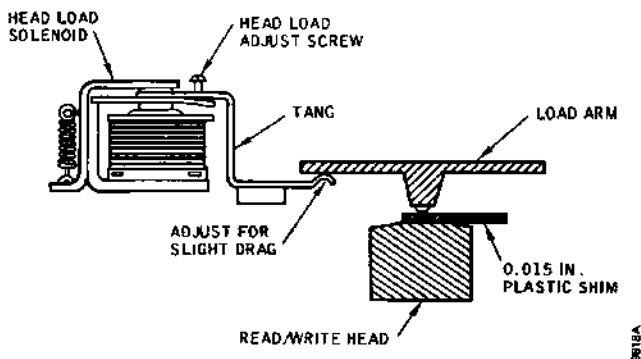

Figure 4-12. Head Load Check and Adjustment
3. Insert a 0.015-inch, plastic shim between the head and load arm (see Figure 4-12).
5. If it is adjusted incorrectly, set the Head Load Adjust screw (Figure 4-12) for a slight drag between the tang on the solenoid and the load arm.